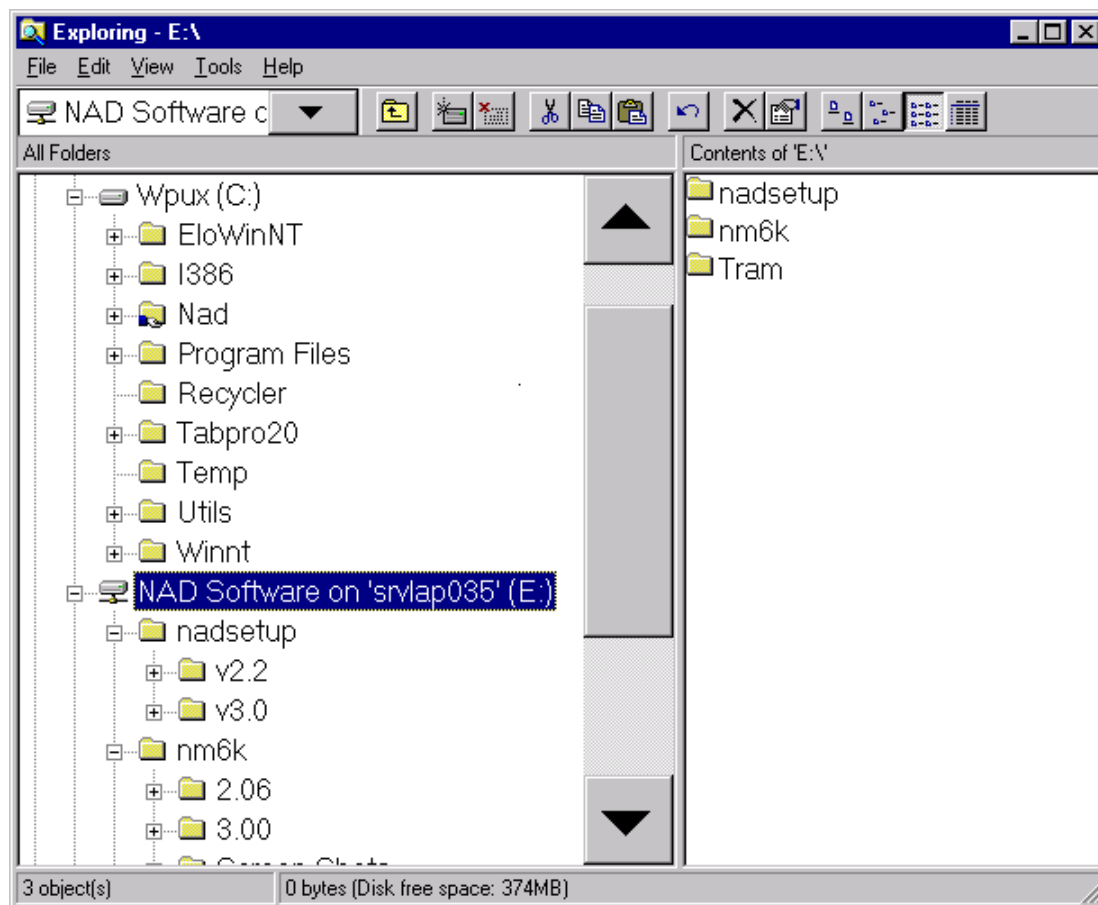

FIGURE 1-12. Typical NAD Software Dialog
- 1.33 On the NM6400 display screen, select 'NAD Software on (E:)'. See FIGURE 1-12.